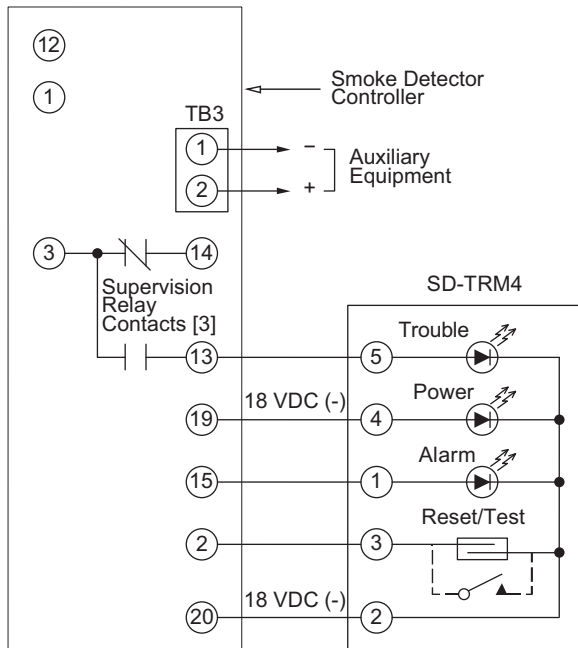

Fig. 47 — Remote Test/Reset Station Connections
The test/reset station dirty sensor test checks the test/reset station's ability to initiate a sensor dirty test and indicate the results. It must be wired to the controller as shown in Fig. 47 and configured to operate the controller's supervision relay. For more information, see "Dirty Sensor Test" on page 37.
1. Verify that the remote test/station is wired as shown in Fig. 47. Repair or replace loose or missing wiring.